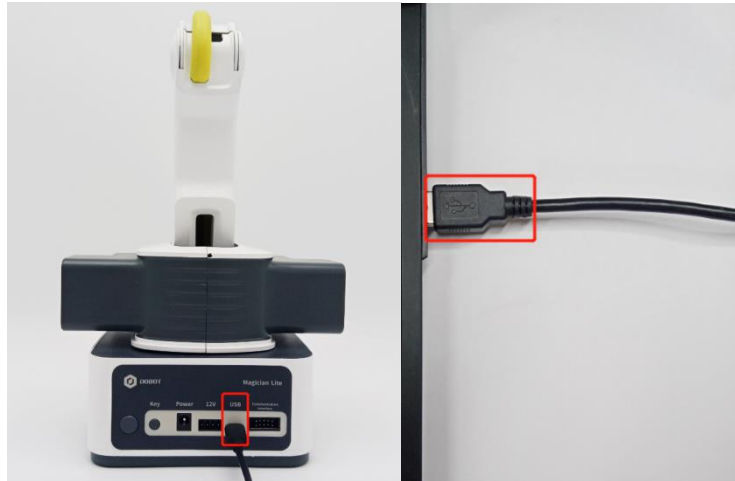

Figure 1.3 Connecting with Type-C data cable
Step 4: Use a Type-C interface cable to connect Magician Lite and the computer, as shown in Figure 1.3.